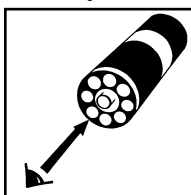

Figure 3
7. Place the VACUette ampoule, flat end down-ward into the center tube of the comparator. Direct the top of the comparator up toward a bright source of light while viewing from the bottom. Rotate the comparator until the color standard below the ampoule shows the closest match (fig 3). If the color of the VACUette ampoule is between two color standards, a concentration estimate can be made.